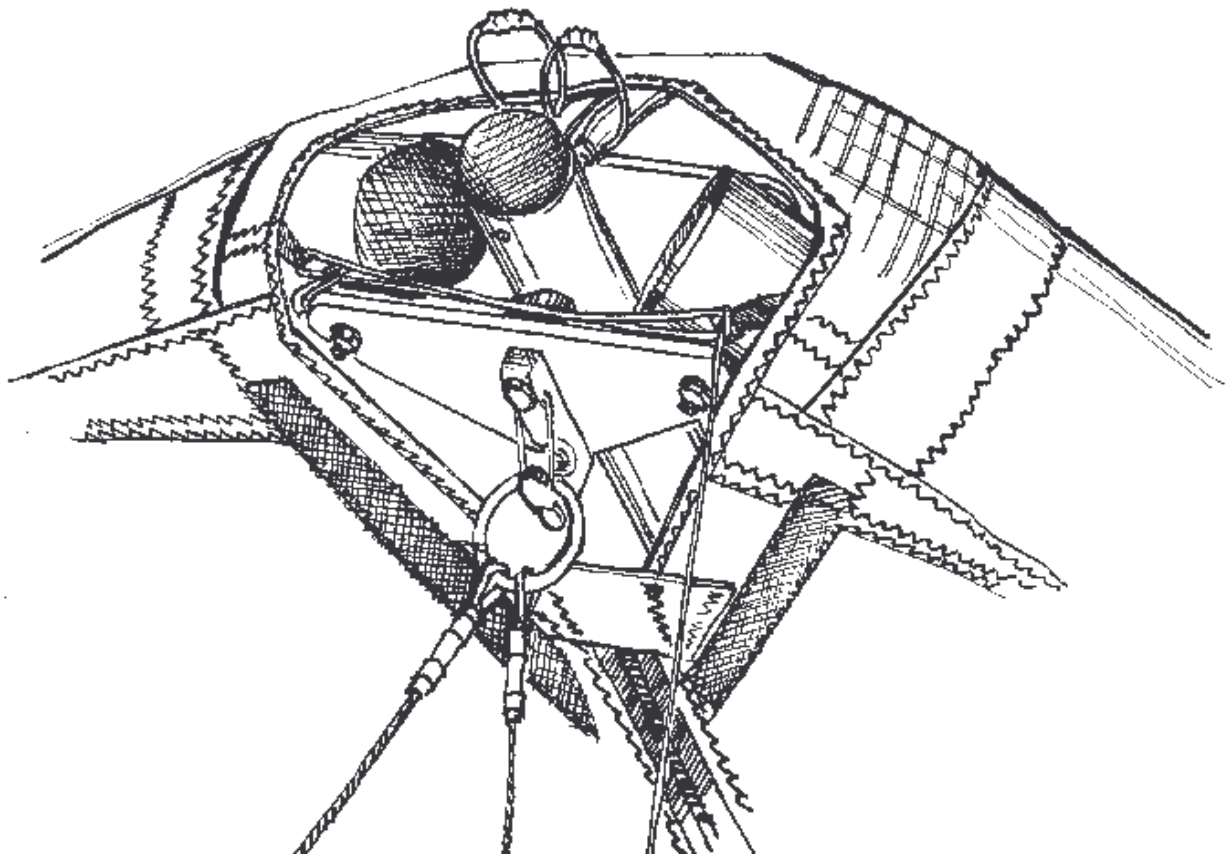

Fig. 8
2.2.2. Check the nose junction. The wires must be secured. The keel battens must be resting on the keel tube (Fig. 8). Put the nose cone on the sail.